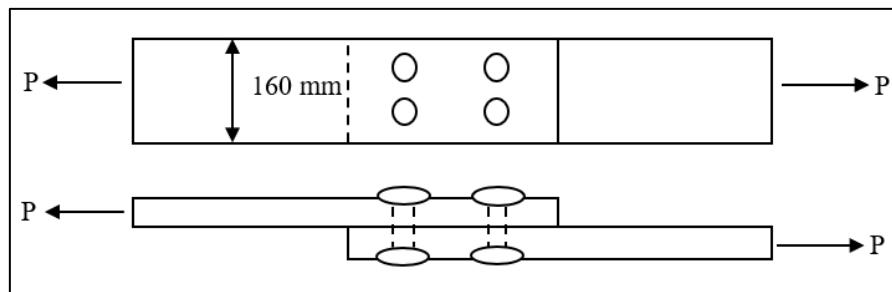

Figure A1(c)
- CLO1 (c) The lap joint as shown in Figure A1(c) is connected by four 20 mm diameter rivets. Calculate the shear stress in the rivets. Assume that the load  $P = 120 \text{ kN}$  is carried equally by the four rivets.